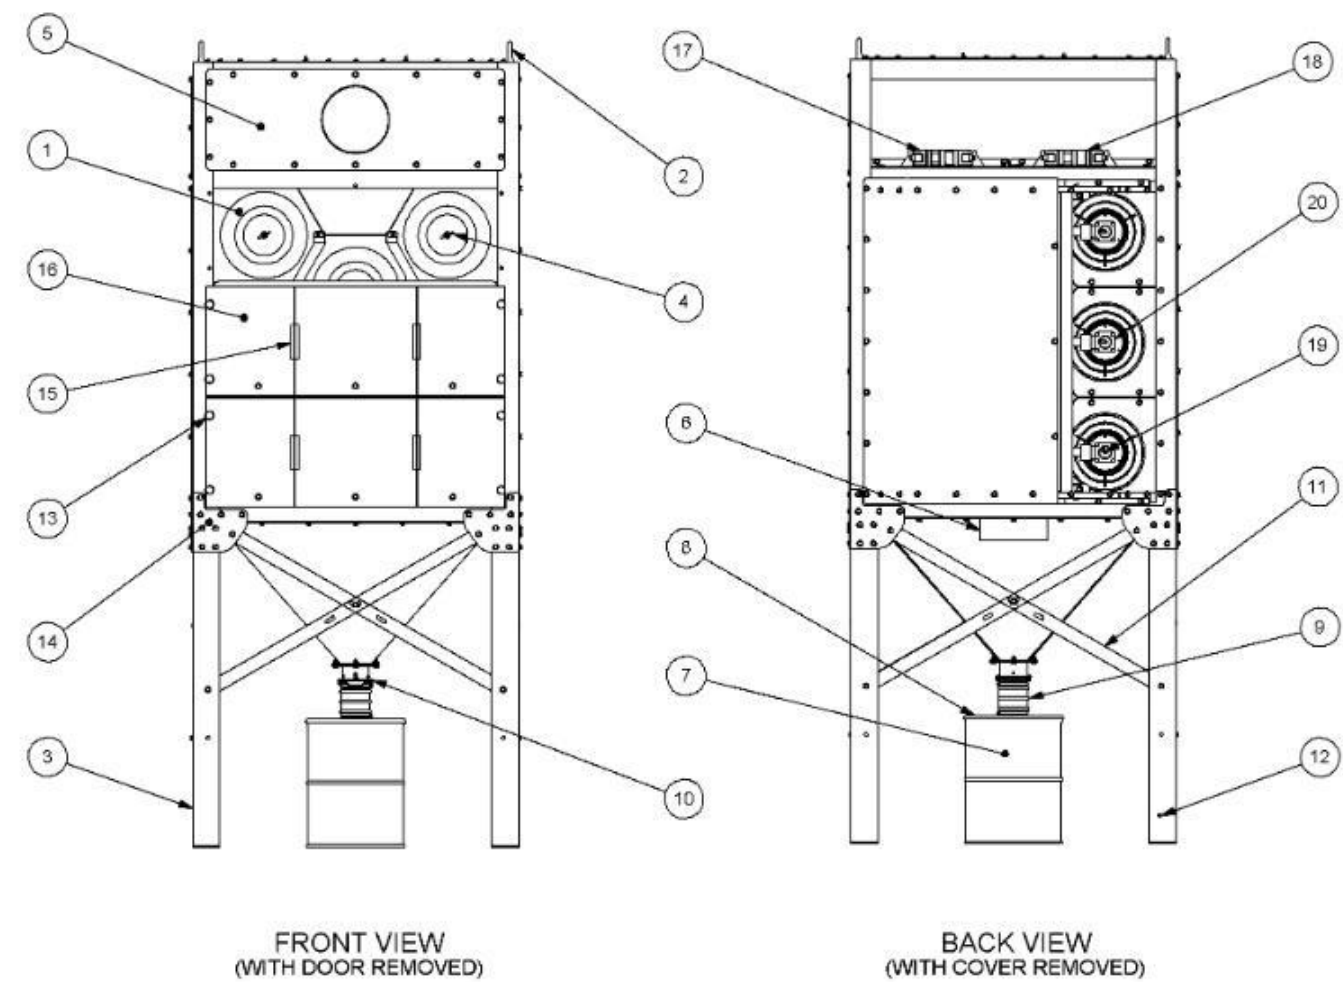

Figure 2
Cartridge Dust Collector is illustrated in *Figure 2* and the parts list is provided in *Table 2*. Reference numbers in *Figure 2* correspond to the numbered items in *Table 2*.
8. Before disconnecting the crane, recheck all of the hardware to make sure it is securely tightened. After checking hardware, disconnect the collector from the crane (refer back to Figure 2 for Typical Installation).